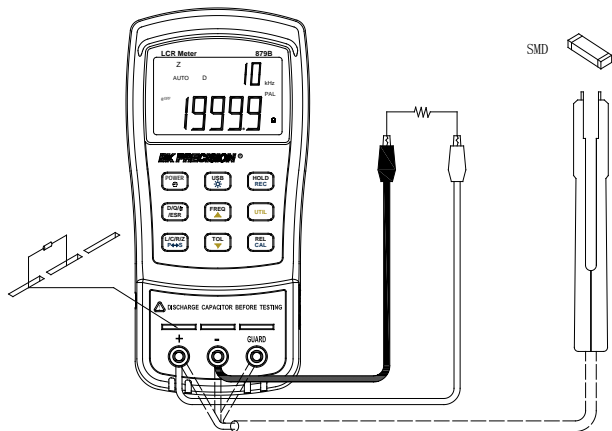

Figure 13 - Impedance Measurement Setup
3. Insert component into the input sockets or connect alligator leads into the banana jack input terminals and connect the clips to the component leads as illustrated in Figure 13.